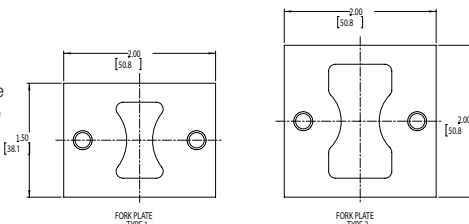

Figure 4
3. After circuit breaker/HMCP is installed, assemble the appropriate fork plate to the fork with supplied two (2) 1/4-20 x 3/4" screws and two (2) 1/4 split lock washers as shown, and torque screws to 30 in.-lb (3.4 N-m). See Figure 4 and Table A4 for selecting the correct fork plate for the assembly.
*See Figure 4 on page 2 for further fork plate information.